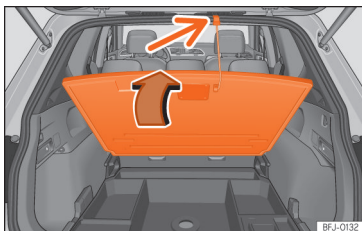

Fig. 159 In the boot: lift the boot floor.
- Grab the boot floor by the opening »» Fig. 159 and lift it in the direction of the arrow. Secure the belt to the rubber gasket (small arrow).